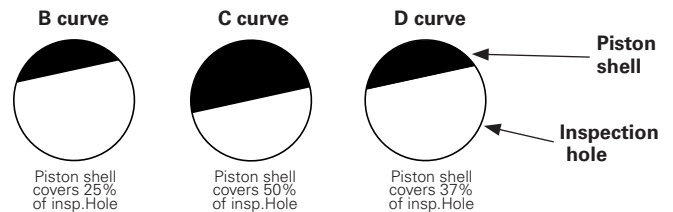

Figure 42. Pump piston shell adjustment
- With the recloser in the OPEN position, initially set the pump piston according to the following guide: (Figure 42.)